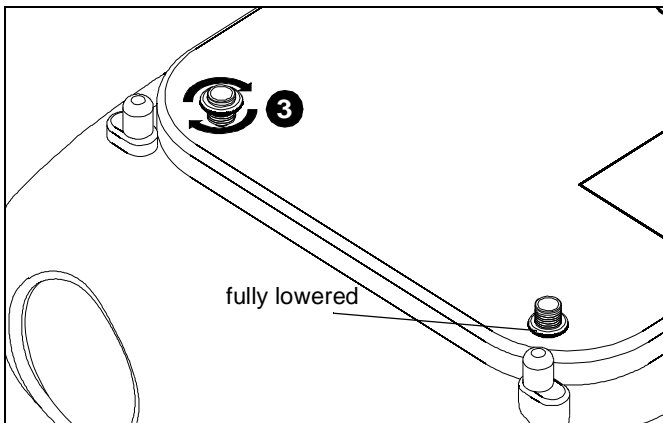

**Figure 16**
4. Place SLMU legs (K) over screw adapters and height-adjustment nuts. (See Figure 16)